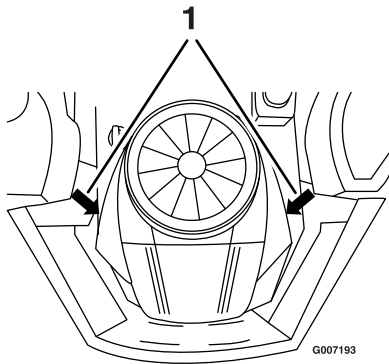

Figure 25
2. Pull the wire off of the spark plug (Figure 25). Clean around the spark plug to prevent dirt from falling into the engine and potentially causing damage.
3. Push the wire onto the spark plug (Figure 25).